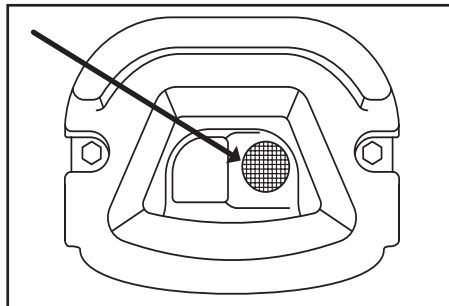

Fig. 4
5. Clean the strainer in the solution tank daily. (Fig. 4)